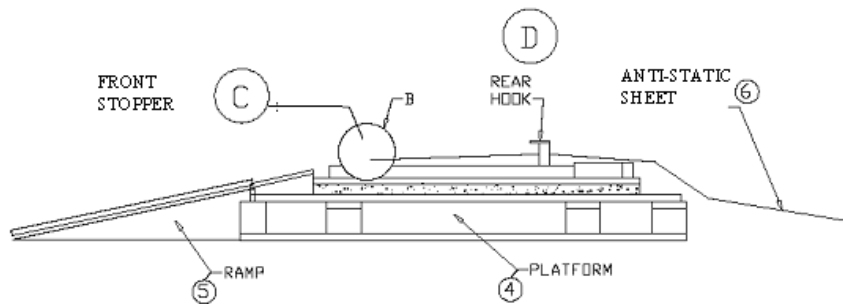

Figure 3-10 Front Stopper Location
- 9) Release the front stopper (item C in Figure 3-10 below) by sliding the metal sleeve located at the locking pin's base upwards, and then turning it towards you.
- 10) Remove the three silica gel (moisture absorbing) bags (item 7 in Figure 3-10, above) located underneath the ultrasound unit.